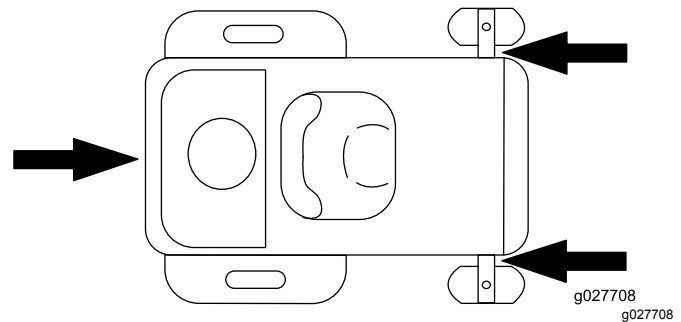

Figure 23
6. Tie down the machine near the front caster wheels and the rear bumper with straps, chains, cable, or ropes (Figure 23). Refer to local regulations for tie-down requirements.